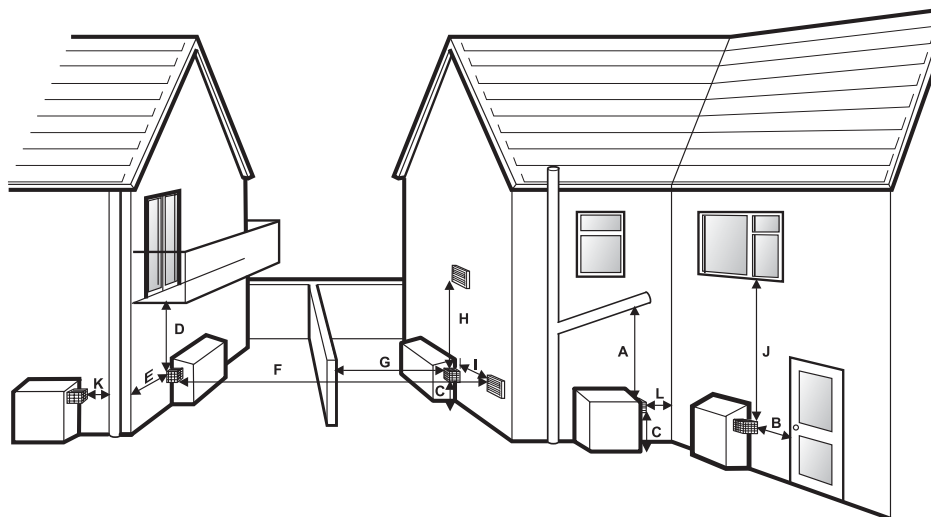

Fig. 7 - Flue terminal positions
- 3 The Module must be positioned such that the required clearances from the low level flue outlet, as shown in Fig. 7, are achieved.
The minimum dimensions for positioning the flue terminal are shown in Fig. 7.